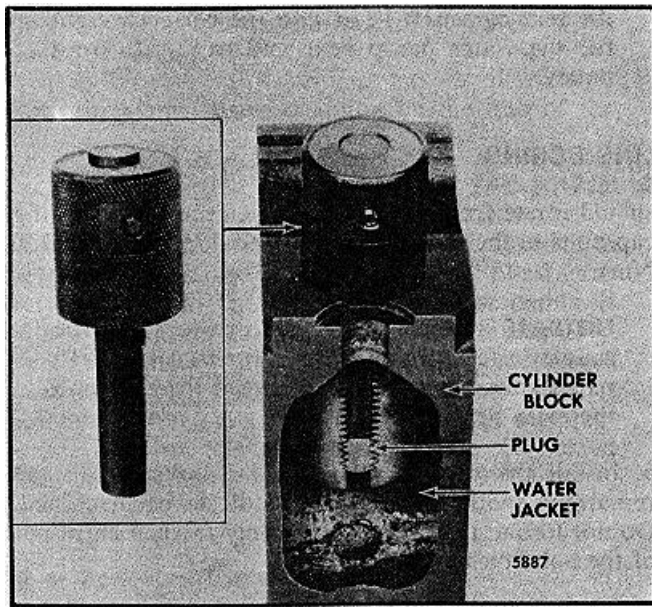

FIG.. 2 Checking Depth of Plug with Tool J 26244
The cylinder head bolt hole plugs are designed to seal the head bolt holes from the coolant passages. Tool Kit J 26620 is available for removing and installing the plugs. Replace a cylinder head bolt hole plug in the cylinder block as follows (Fig. 2):
3. If depth gage J 26244 is used, place the gage in the bolt hole and loosen the set screw (Fig. 2). If the depth gage is flush with (1.920") or below the knurled gage holder, the plug is installed and sealed at the proper depth. *Tool J 26244 is made to early cylinder block specifications of 1.920" and would automatically qualify the current V-71 cylinder block specification of 2.040"*. Do not apply any sealant to the top of the plug after installation. Allow the sealant to set for twelve hours and pressure check for five minutes at 40 psi (276 kPa).